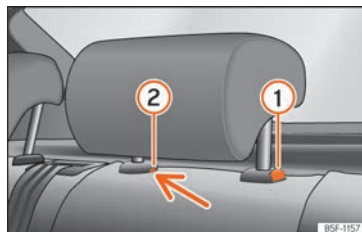

Fig. 71 Rear head restraint: removal.
- Press button >>> Fig. 71 **1**, while simultaneously pressing on the safety hole **2** with a flat screwdriver a maximum of 5 mm wide, and remove the headrest.